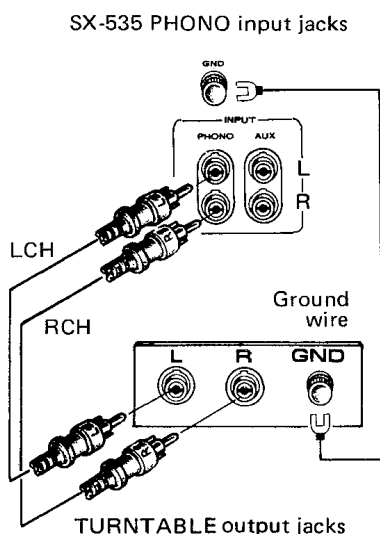

Fig. 7 — Connecting the SX-535 to turntable.
A stereo turntable with a moving magnetic (MM) cartridge can be connected to the PHONO input jacks (Fig. 7).